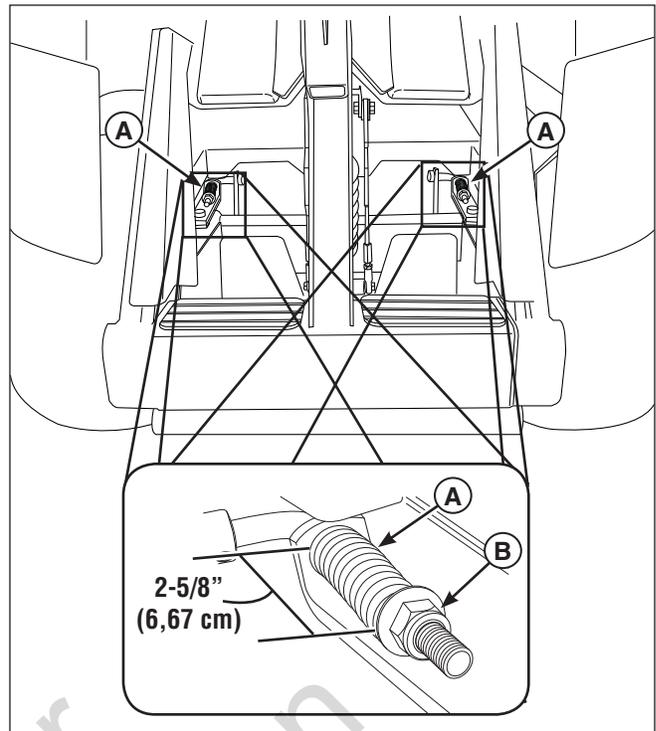

Figure 32. Parking Brake Adjustment
2. Locate the two (2) brake springs (**A**, **Figure 32**).